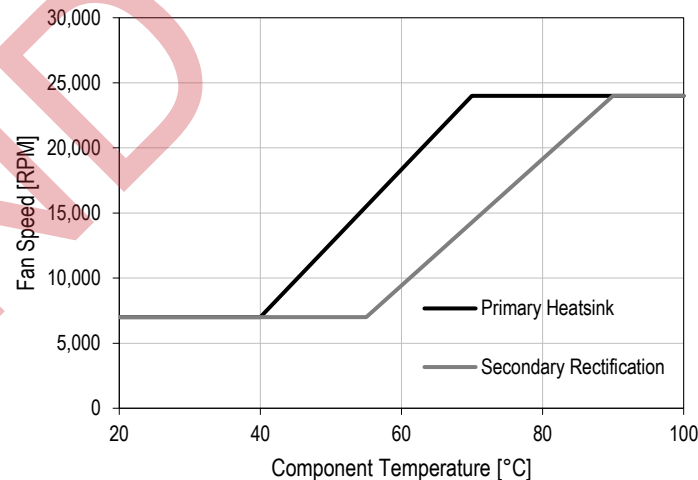

Figure 5. Fan speed versus power stage temperatures
- Component depending Fan Speed curve according to *Figure 5*.